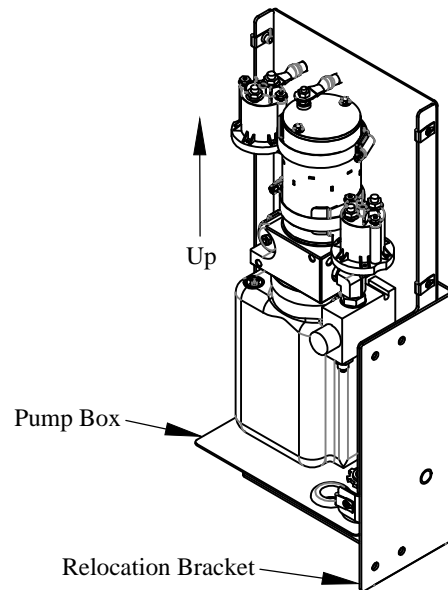

Figure 5: Pump Box Mounted in Vertical Position on Relocation Bracket.
The pump box must remain in a vertical position after remounting (Figure 5).
16. Install pump box in pump box relocation bracket using bolts removed in previous step (Figure 5).